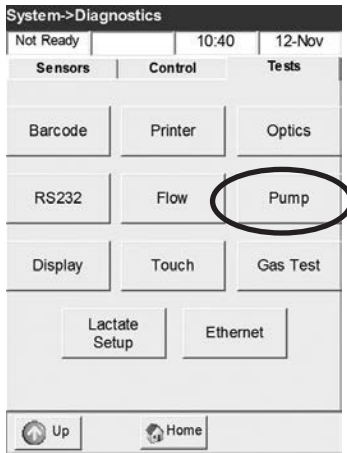

Fig. 7-28 Pump Motor Test
- Press **<Pump>** to start the test (Fig. 7-28).